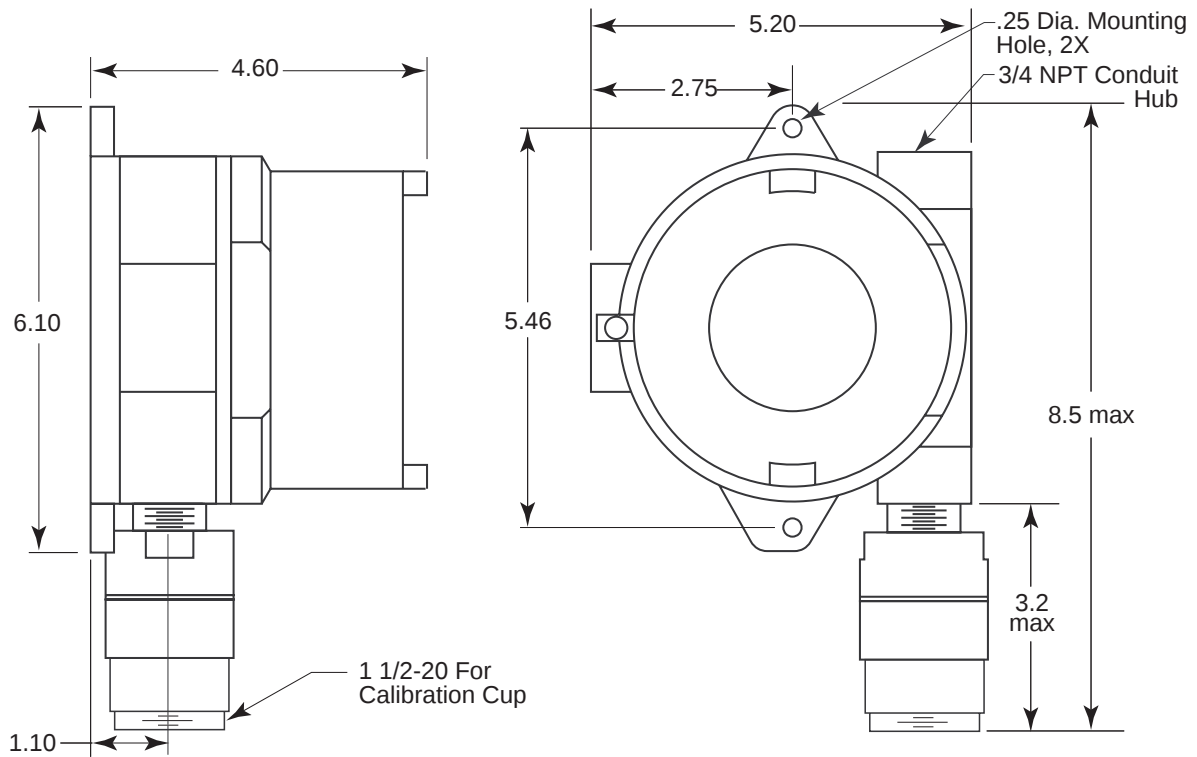

Figure 12: Outline & Mounting Dimensions, CSA Type H2S, CO, and Oxygen
2. At the monitoring site, use #10 screws through the junction box's two mounting holes to secure the junction box to a vertical surface. Figure 8 - Figure 12 show the outline and mounting dimensions for each version of the M2. Mount the M2 with the detector facing down as shown in the figures.